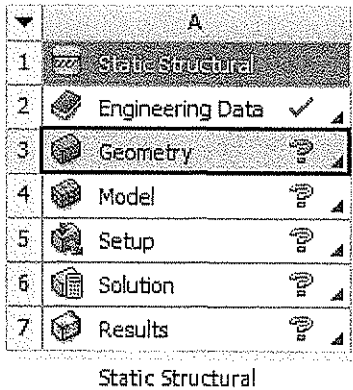

Figure 6-21 The Static Structural analysis system
2. Add **Static Structural** analysis system to the **Project Schematic** window, refer to Figure 6-21.